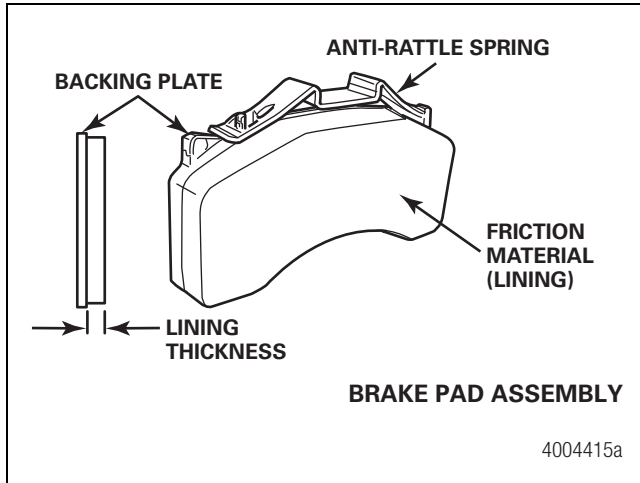
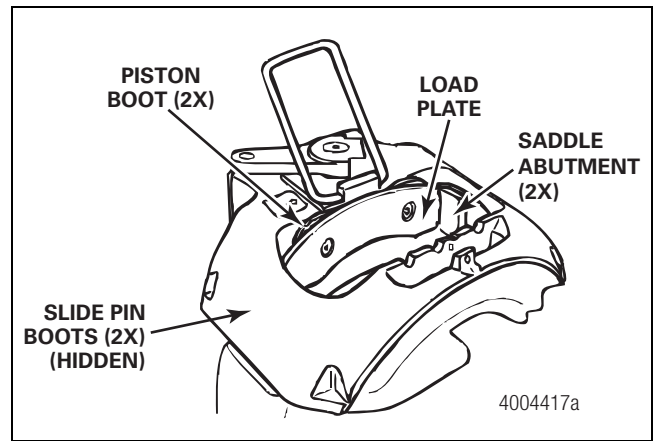

Figure 6
Figure 8
- Inspect the brake pads for cracked friction material (lining). Check if the friction material is loose or detached from the backing plate. Inspect the anti-rattle springs attached to the brake pad. Replace bent, cracked or broken springs. Figure 6.
- Measure the friction material (lining) thickness. Replace the brake pad assembly before the lining thickness reaches 0.200-inch (5.1 mm). Figure 6.
- Inspect the caliper boots. If the boots are damaged, replace the caliper. Figure 8.
1. Slide the caliper OUTWARD. Install the OUTBOARD pad and spring assembly into the OUTBOARD side of the caliper. Confirm that the load plate is correctly located between the saddle abutments. Figure 8.
- B. Verify that the load plate is in full contact with the brake pad backing plate. Figure 6 and Figure 8.